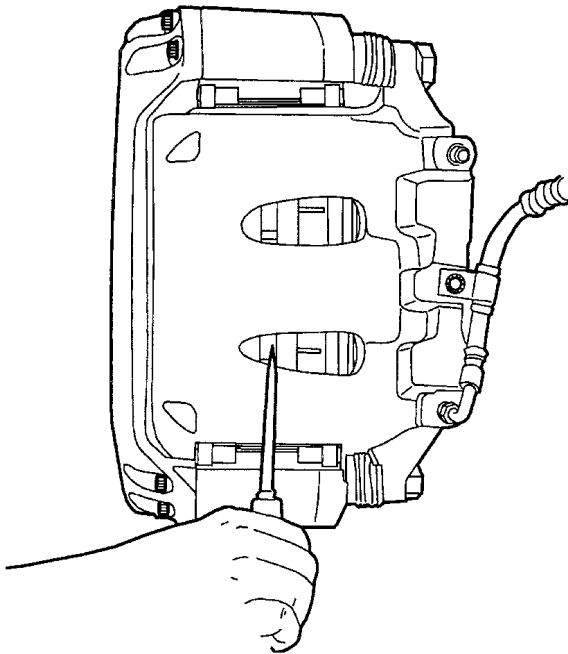

Figure 22 Push Caliper Outboard Pushing Pistons into Piston Bores
2. Insert a screwdriver in one of the rotor cooling fin slots and pry the caliper outboard pushing the caliper pistons into the piston bores. This will allow removal of caliper assembly (Figure 22).